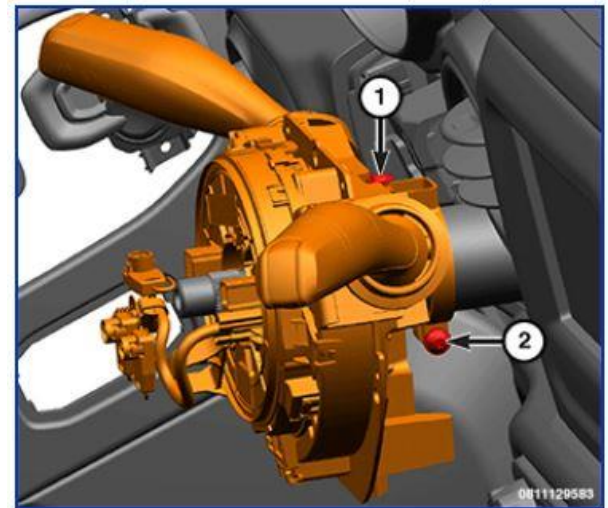

Figure 5 – Center Attachment Fastener (1) and Clamp Fastener (2)
15. Loosen the centering attachment fastener (1) on the top, rear of the SCCM. Do not remove the fastener completely (Figure 5).